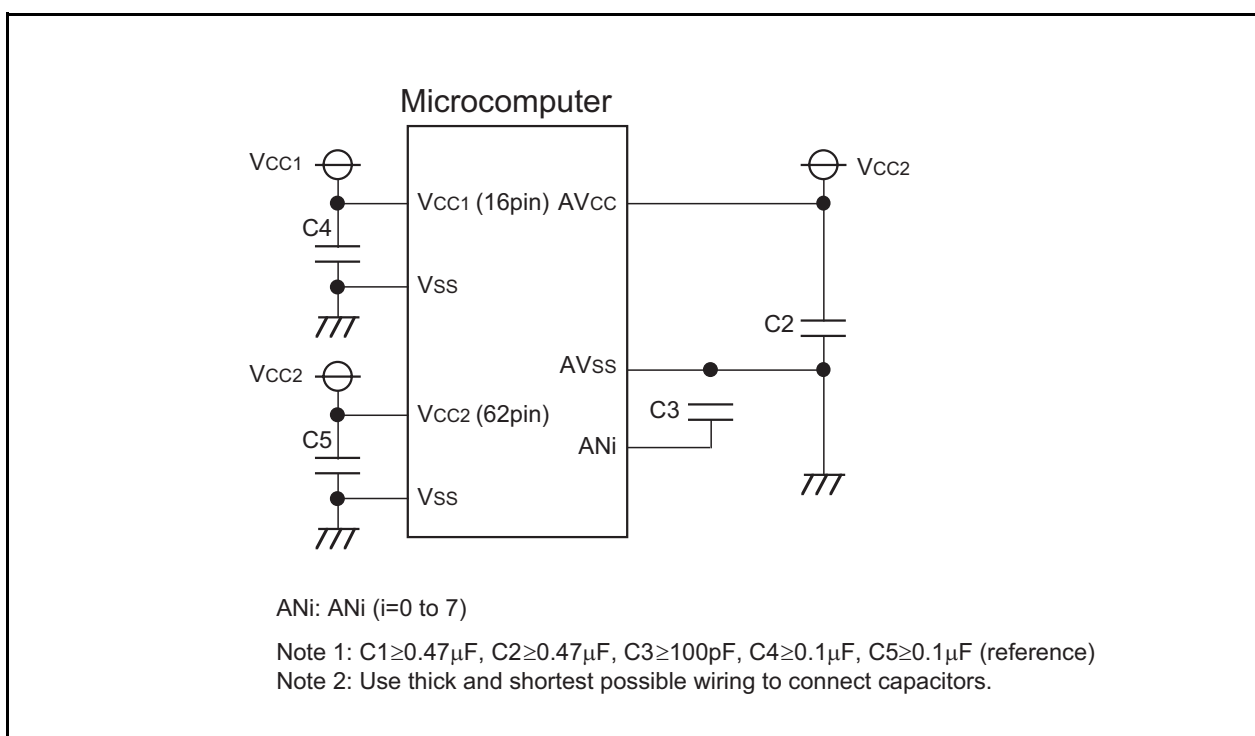

Figure 19.2 Use of capacitors to reduce noise
- (1) Set ADCON0 (except bit 6), ADCON1 and ADCON2 registers when A/D conversion is stopped (before a trigger occurs).
- (2) When the VCUT bit of ADCON1 register is changed from “0” (Vref not connected) to “1” (Vref connected), start A/D conversion after passing 1 μ s or longer.
- (3) To prevent noise-induced device malfunction or latchup, as well as to reduce conversion errors, insert capacitors between the AVCC and analog input pins (AN_i (i=0 to 7)) each and the AVSS pin. Similarly, insert a capacitor between the VCC pin and the VSS pin. Figure 19.2 is an example connection of each pin.
- (4) Make sure the port direction bits for those pins that are used as analog inputs are set to “0” (input mode). Also, if the ADCON0 register's TGR bit = 1 (external trigger), make sure the port direction bit for the $\overline{\text{ADTRG}}$ pin is set to “0” (input mode).
- (5) The ϕ_{AD} frequency must be 10 MHz or less. Without sample-and-hold function, limit the ϕ_{AD} frequency to 250kHz or more. With the sample and hold function, limit the ϕ_{AD} frequency to 1MHz or more.
- (6) When changing an A/D operation mode, select analog input pin again in the CH2 to CH0 bits of ADCON0 register and the SCAN1 to SCAN0 bits of ADCON1 register.
- (7) If the CPU reads the AD_i register (i = 0 to 7) at the same time the conversion result is stored in the AD_i register after completion of A/D conversion, an incorrect value may be stored in the AD_i register. This problem occurs when a divide-by-n clock derived from the main clock or a subclock is selected for CPU clock.